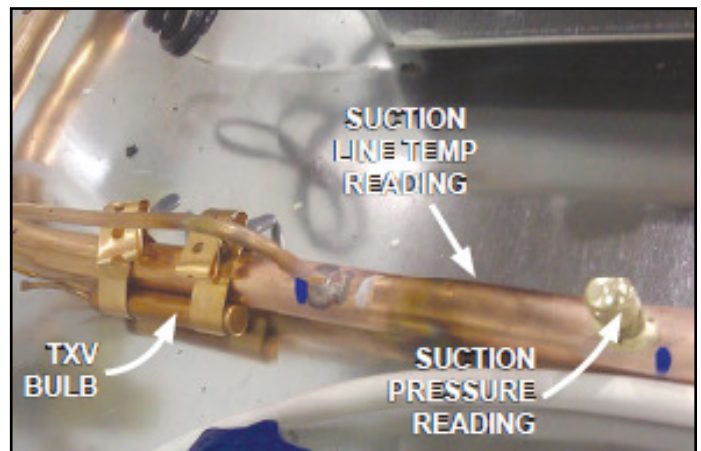

Fig. 13: Obtain pressure and temperature readings
1. Obtain suction pressure from the access port. Obtain suction line temperature from the area near the TXV bulb at the outlet of the evaporator coil (Fig. 13).